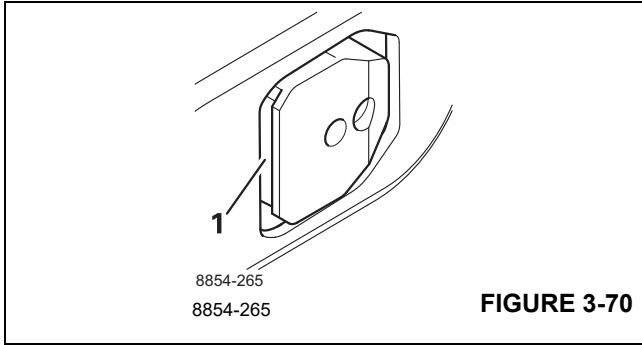

FIGURE 3-70
The cutout (1), (Figure 3-70) must be clear. That is why you have to extend the telescoping cylinder further than with a return run.